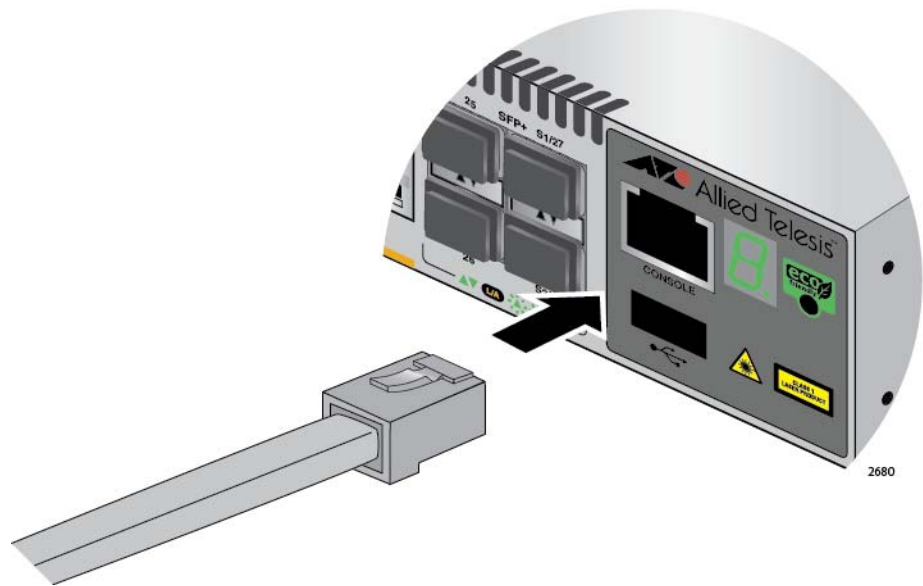

Figure 33. Connecting the Management Cable to the Console Port
1. Connect the RJ-45 connector on the management cable to the Console port on the front panel of the switch, as shown in Figure 33 on page 75.